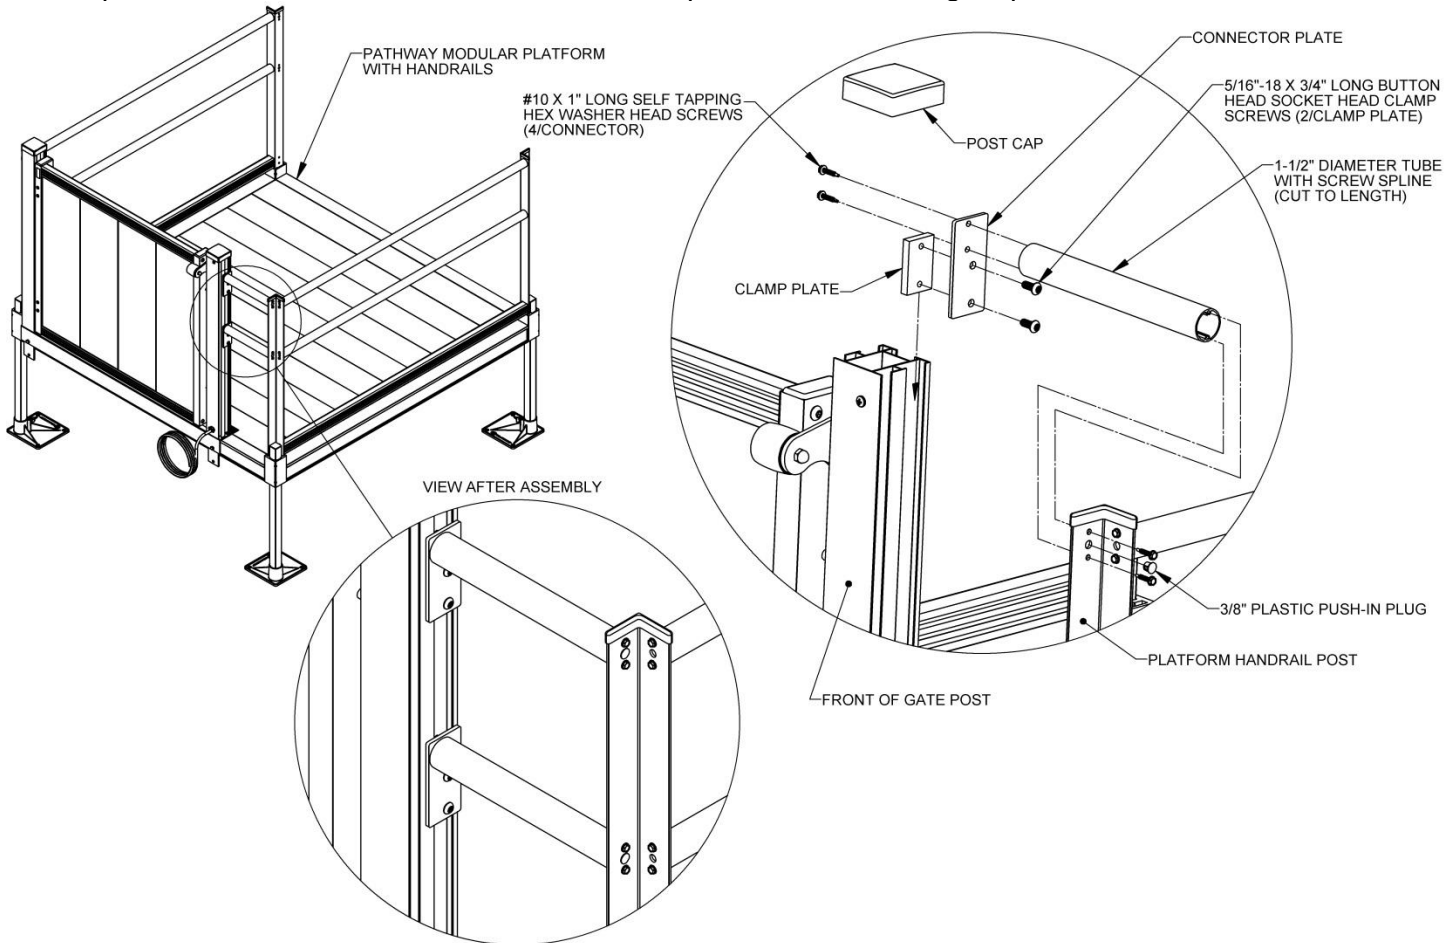

FIG. 7.3
11. If they were disassembled for cutting, reassemble the connector plate to the handrail tube and assemble the clamp plate to the connector plate using two 5/16"-18 x 3/4" long button head socket clamp screws through the larger holes in the connector plate and into the tapped holes in the clamp plate. Do not tighten fully at this time. Orient the connector plate as shown in FIG. 7.3 with the clamp plate below the handrail tube and toward the platform side of the gate post.
15. Reinstall the post cap and insert the 3/8" push in plugs in the open holes between the hex washer head screws in the platform post (FIG. 7.3).